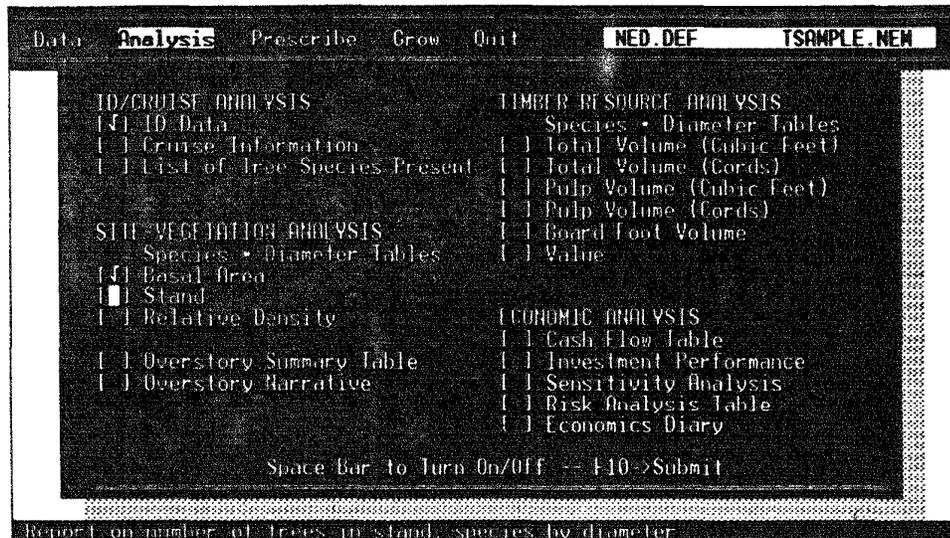

Figure 19. -- Analysis Menu window.
**Operation:** The Analysis menu (Fig. 19) allows you to select and generate reports on a wide variety of basic stand information. During a typical NED/SIPS session, you would use Analysis to obtain reports on the original stand conditions such as basal area or number of trees at time zero before any prescriptions or growth projections have been attempted. However, you can access Analysis to obtain reports on the residual or projected stand conditions after these procedures too.